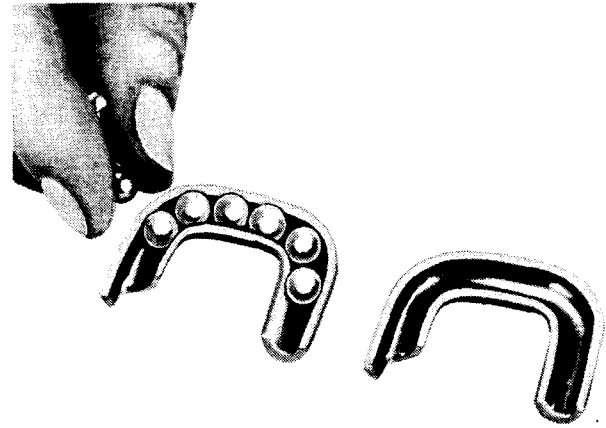

Fig. 8—Filling Ball Guides
(6) Place one set of ball guides on the bench, each guide-half having the ball-groove up. Position the remaining seven balls into the groove of one ball guide-half and cover them with the second guide-half. Holding the two halves together, plug the opening on each end with a dab of grease to keep the balls in place while installing the guide assembly (Fig. 8).
(7) Push the guide assembly into the guide holes of the nut. If a slight bind is encountered, tap lightly into place with a screwdriver handle. After the guide assembly is in position, one ball circuit is completed.
(8) Use the same procedure to assemble the second ball circuit. Install the ball guide clamp and tighten the screws as specified. Rotate the nut on the worm to check for binding and free movement.